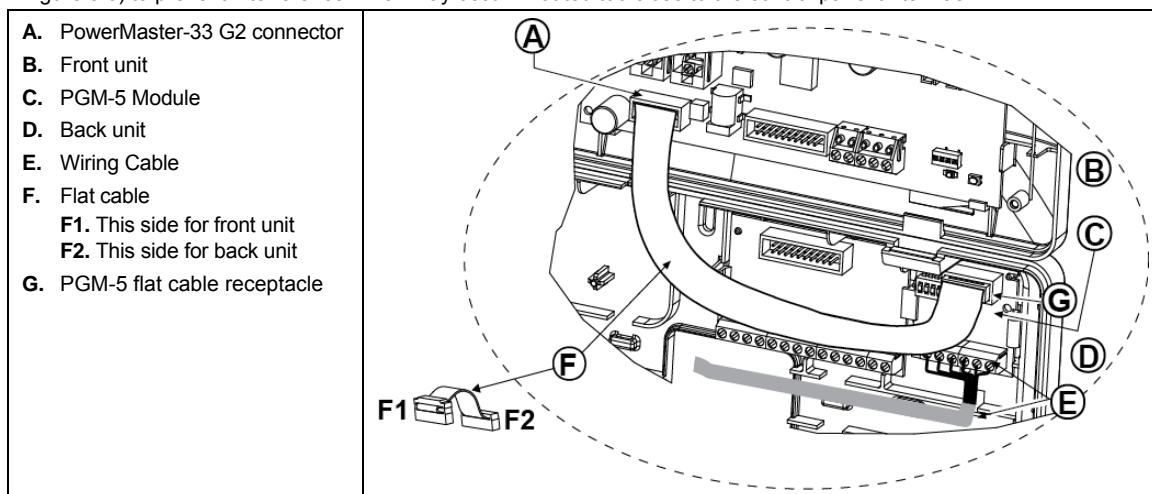

Figure 3.6 – PGM-5 Module Mounting
Mount the PGM-5 module as shown in Figure 3.6.
Caution! When mounting the PGM-5 module it is strongly recommended to route the wiring cable (E) as shown in Figure 3.6) to prevent interference which may occur if routed too close to the control panel antennas.